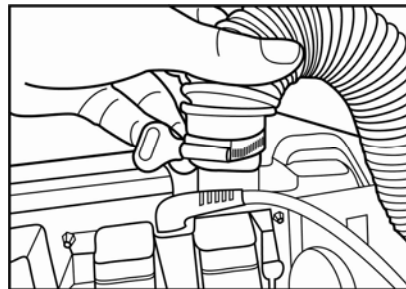

Fig. 10
4. Slide that end of the breathing tube over the Turbo PAPR unit outlet until it seats firmly against the motor blower housing. (Fig. 10)